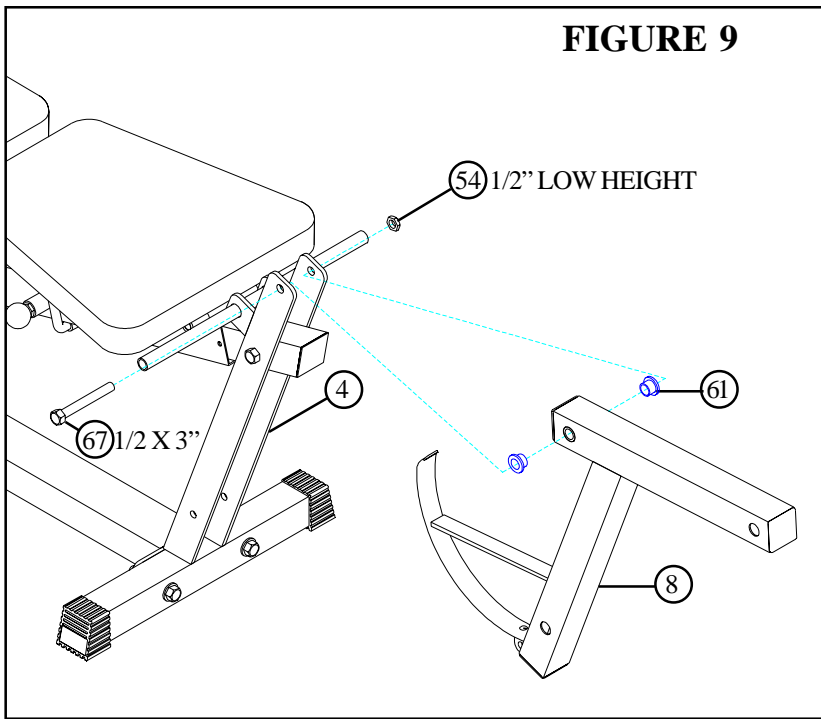

**FIGURE 8**
- Securely attach BACK PAD (22) to BACK PAD SUPPORT (10) using two 3/8 X 2-3/4" (65) and two 3/8" WASHERS (51).
- Securely attach SEAT PAD (23) to HINGE TABS (40) using two 3/8 X 1-1/4" (63) and two 3/8" WASHERS (51) as shown in FIGURE 8.